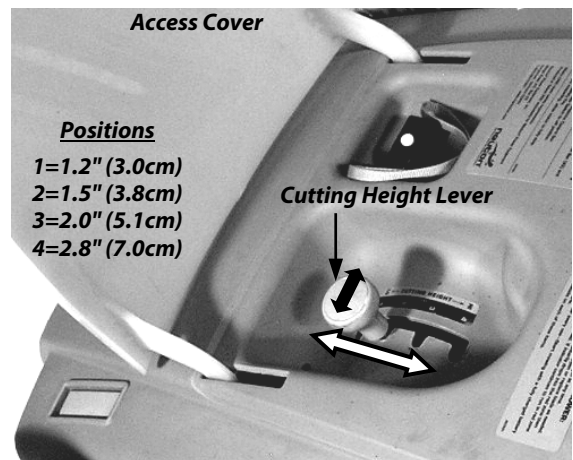

Figure 17
The Cutting Height Lever (**Figure 17**), located under the Access Cover, allows you to easily adjust how high or low you cut the grass. Notice that there are four (4) different Height Positions.